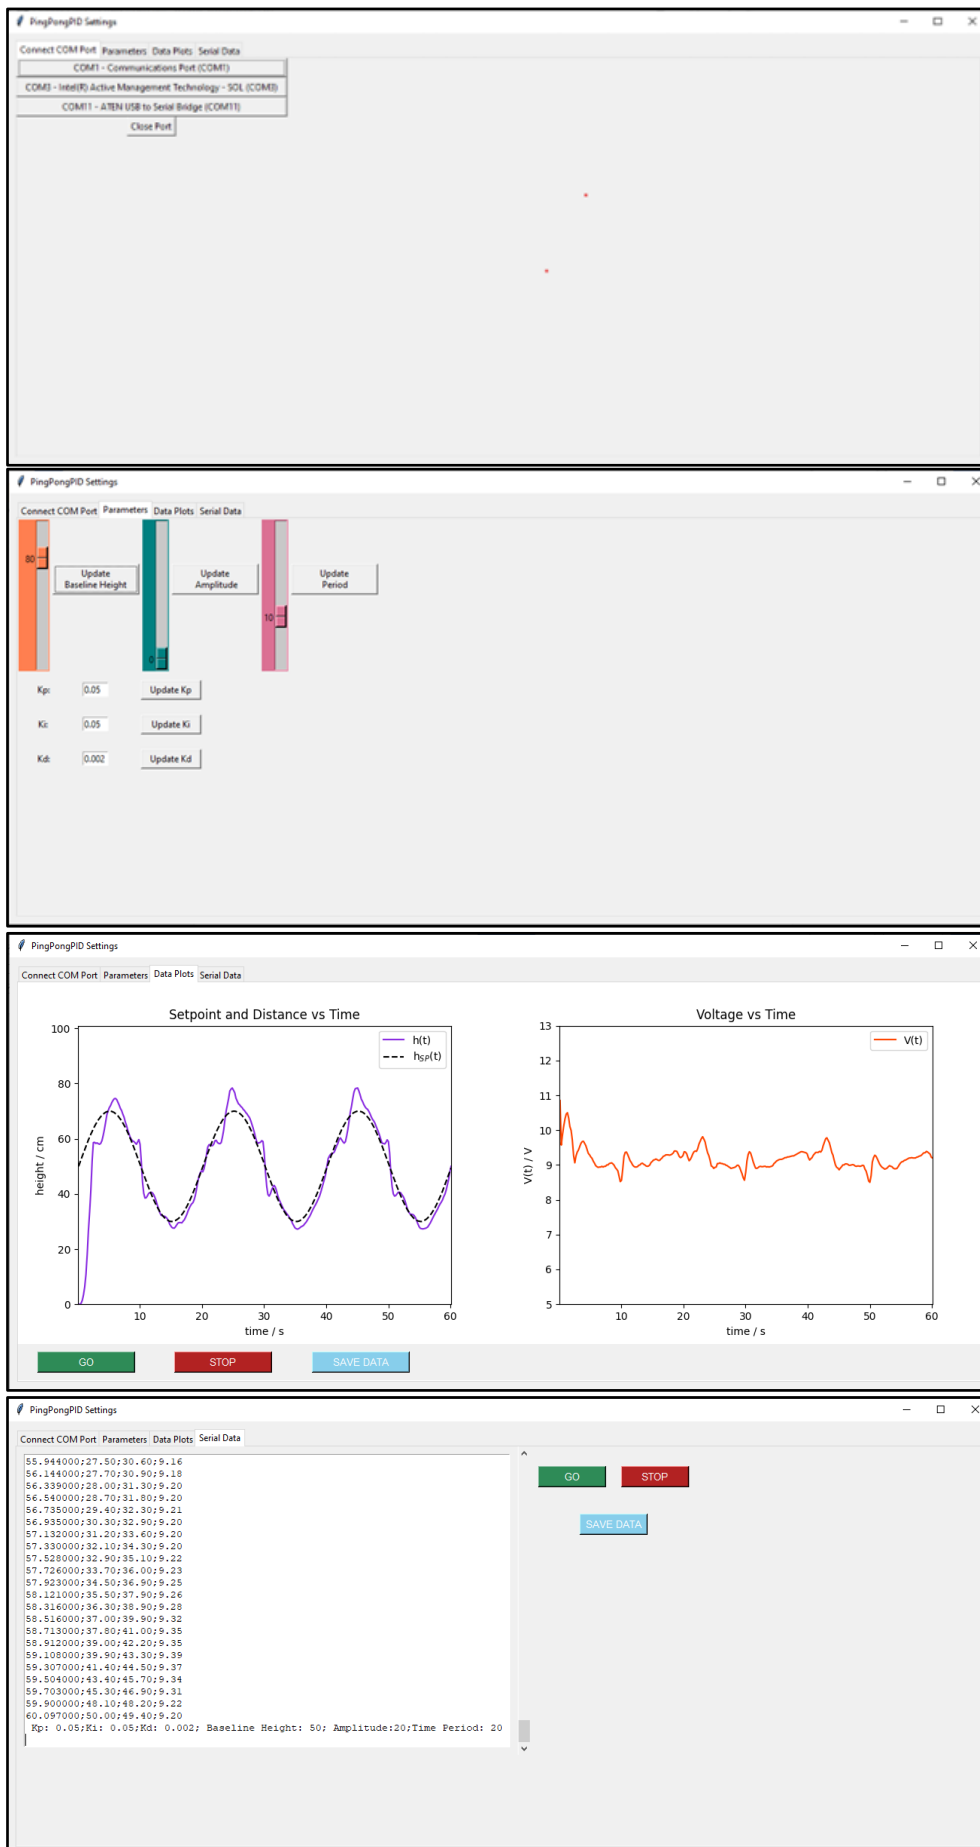

Fig. S7. Screenshots of the various tabs in the graphical user interface (GUI).
- * On the first tab 'Connect COM port', you will see all the COM ports available on your computer. You must select the correct port as determined earlier before running any experiment. Screenshots of the various tabs of the GUI are shown in Fig. S7.